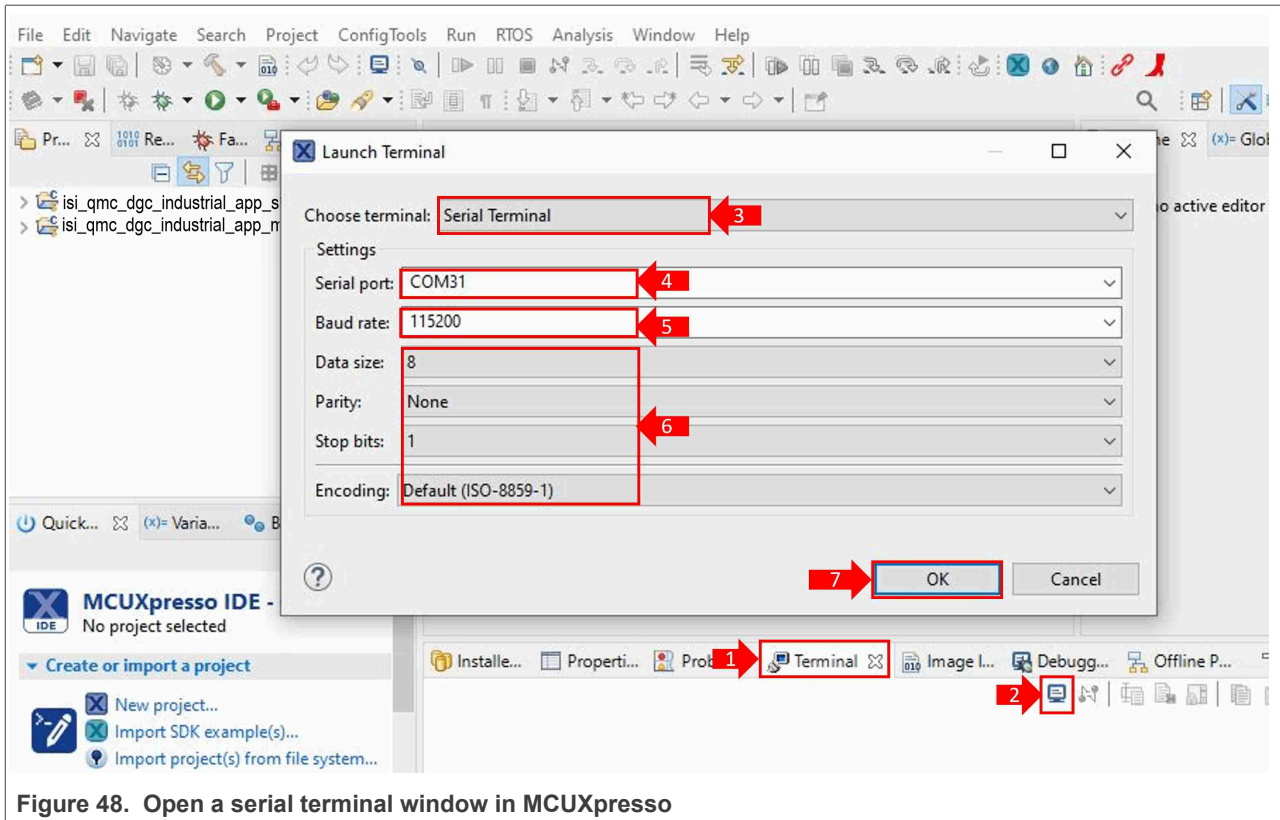

Figure 48. Open a serial terminal window in MCUXpresso
3. In MCUXpresso, open a serial terminal window as shown in Figure 48. The serial terminal window will be used to see debug logs when the software is running.
- (1) Click the *terminal* tab on the bottom pane of MCUXpresso IDE;
- (2) Click the *open a new terminal* icon;
- (3) Select *serial terminal*;
- (4) Select the serial communication port number from the dropdown menu. This corresponds to the *standard COM port* retrieved in the previous step;
- (5) Set the baud rate to 115200;
- (6) Leave the default value for the other settings (*data size: 8, parity: none, stop bits: 1, encoding: default*);
- (7) To open the serial terminal window, click the *OK* button.
**Note:** Alternatively, use your preferred terminal application to print debug logs. Make sure to use the same settings as in Figure 48.